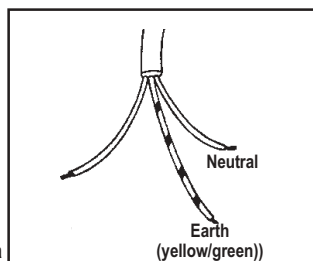

Fig. 3-a
- exert a light pressure and lift (Fig. 3-b)